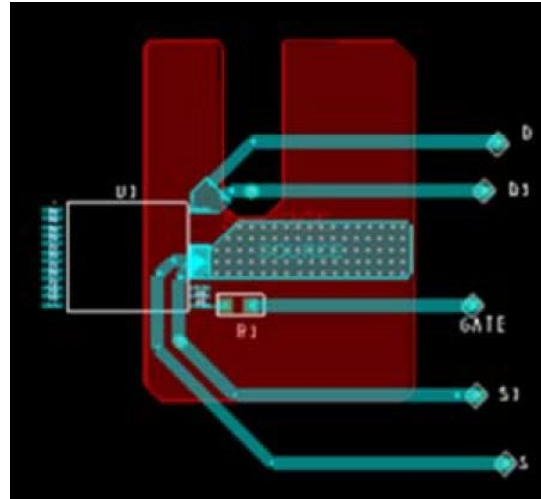

Figure 23. Thermal Resistance Test Conditions for PowiGaN Devices (INN3678C, INN3679C and INN3670C.)
Testing performed on custom thermal test PCB as shown in Figure 23. The test board consists of 2 layers of 2 oz. Cu with the InSOP package mounted to the top surface and connected to a bottom layer Cu heat sinking area of 550 mm².
- Please see Figure 23.